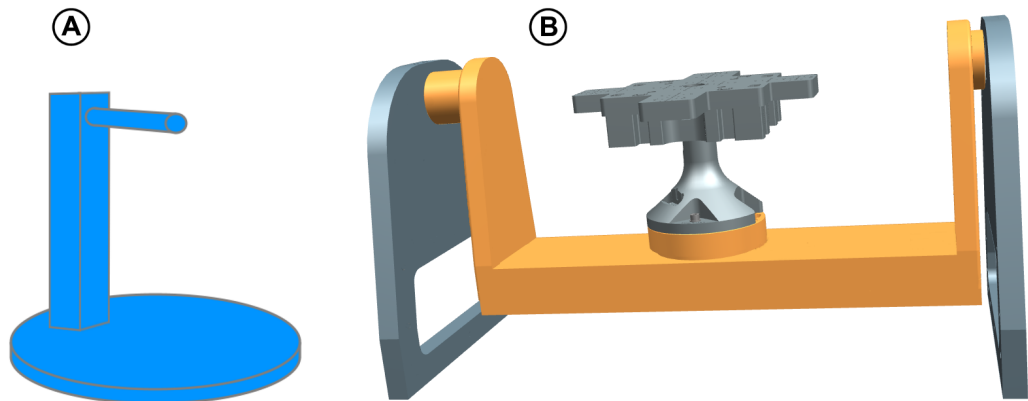

Figure 4-144: OTA positioner types
3. Select one of the types of "Coordinate System" for your positioning system (Figure 4-144):